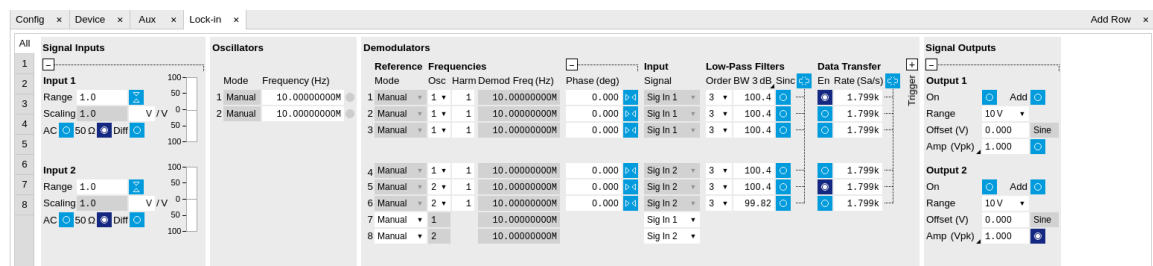

Figure 4.10. LabOne User Interface Lock-in tab - Parameter table (All)
The parameter table (see Figure 4.10) consists of 4 vertical sections: Signal Inputs, Oscillators, Demodulators and Signal Outputs. The Demodulators sections gives access to all the settings of demodulators 1 to 6 that can be used for measurement, and of demodulators 7 and 8 that can be used for external referencing. Demodulators 1 to 3 (4 to 6) are connected to Signal Input 1 (2).